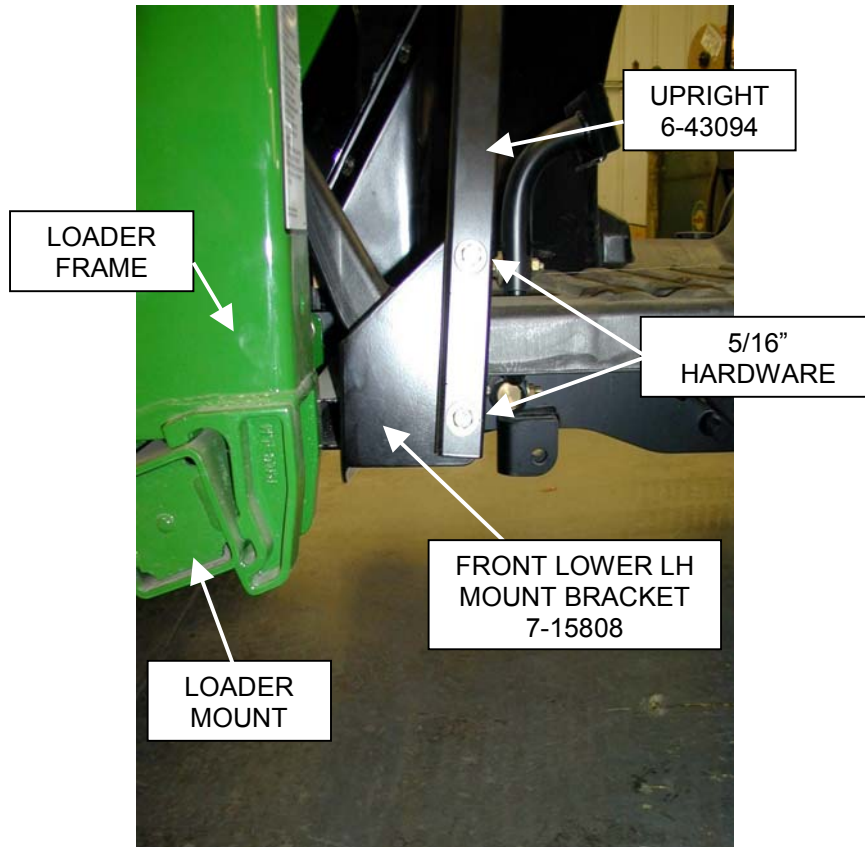

FIGURE 4
7. Assemble front lower mount brackets 7-15808 and 7-15809 to front upright supports 6-43094 using 5/16" fasteners and flat washers. See figure 4.